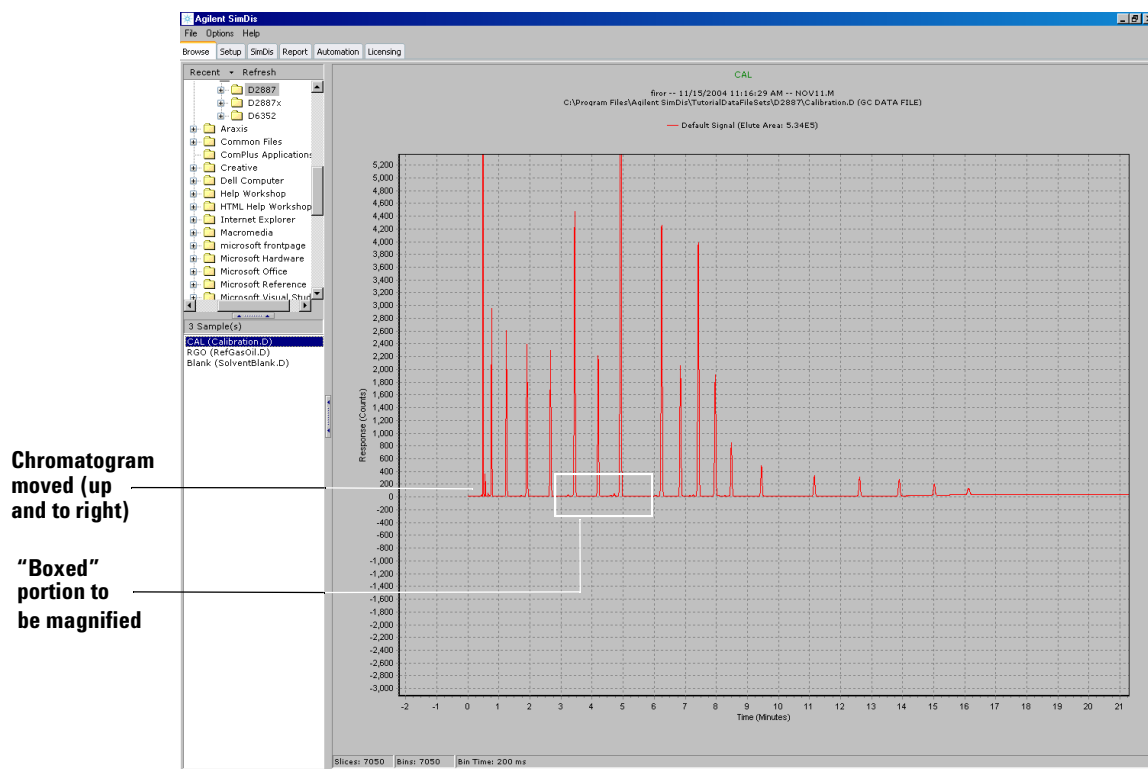

Figure 7 Displayed chromatogram moved and a portion “boxed” for magnification (“zoom in”)
- 3 While continuing to hold down the left mouse button, drag the mouse cursor **right**, and up or down as necessary, to box your portion of interest (Figure 7).